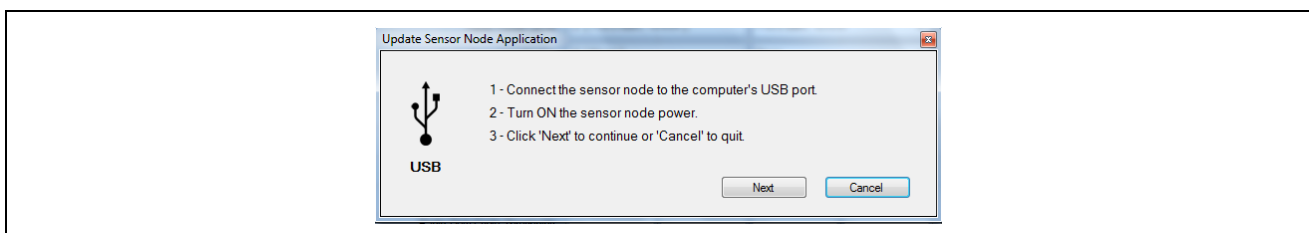

Figure 10 Update Sensor Node Application Dialog
- 2 In the Tools menu, select the “*Update Sensor Node Application...*” menu item. The *Update Sensor Node Application* dialog should appear as seen in Figure 10.